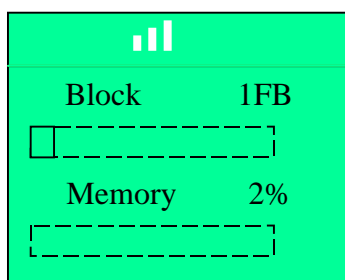

Fig. 2.13
-ProgSize (figure 2.13) : Views the module's memory capacity, that is the number of function blocks and the percentage of memory used.